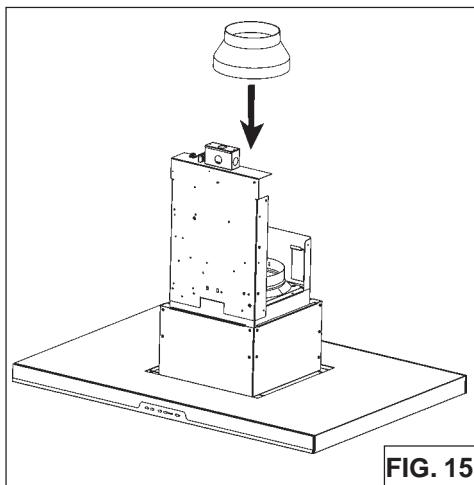

FIG. 15
1. Install discharge collar supplied with the range hood (Fig.15).
2. Attach the 6"-to-8" adapter to blower discharge and tape joint with aluminum duct tape (Fig.15).